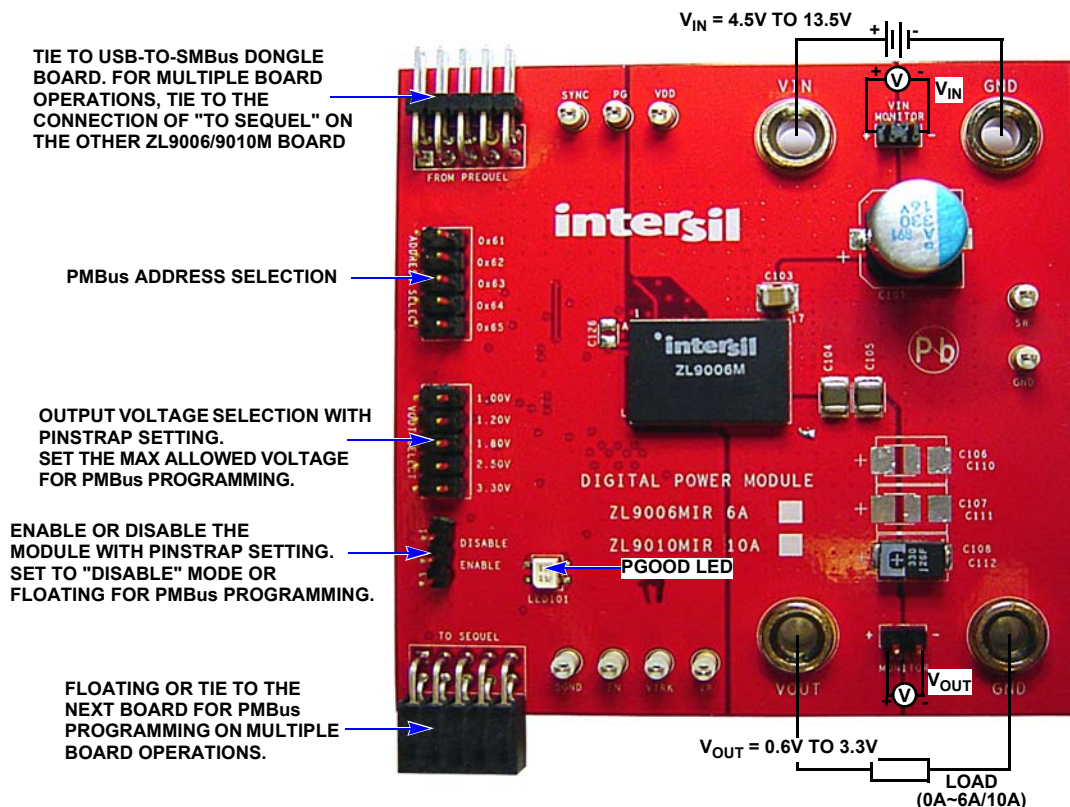

FIGURE 1. ZL9006M, ZL9010M BOARD IMAGE
Figure 1 represents a typical implementation of the ZL9006M, ZL9010M. For PMBus operation, it is recommended to tie the Enable pin (EN) to "disable" mode.
The inputs are P2A (VIN) and P2B (GND). The outputs are P1A (VOUT) and P1B (GND). Refer to Figure 1 for connections. There are two ways to evaluate this evaluation board: I2C/PMBus programming (Steps 1 through 4) and quick pinstrap power-up (Step 6).